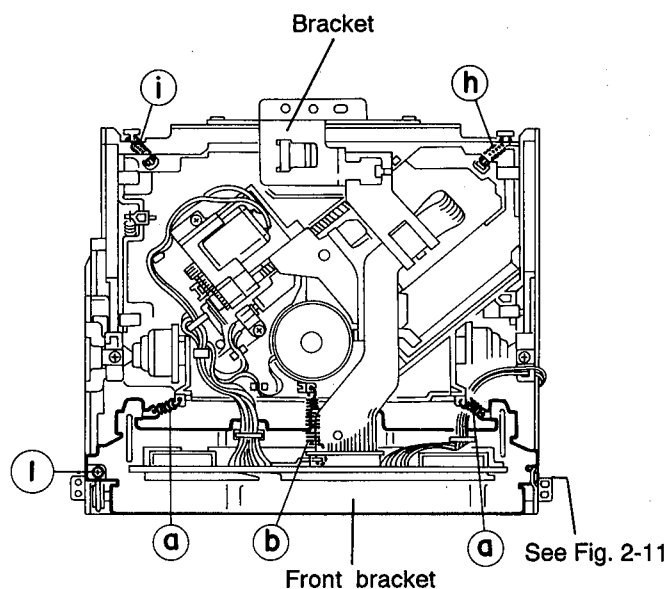
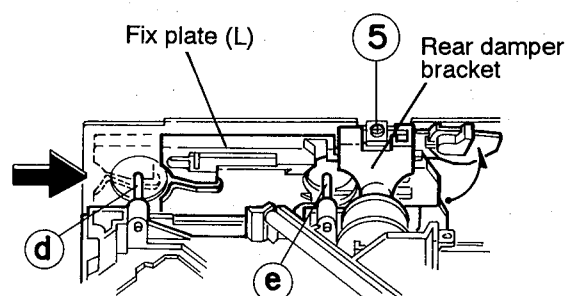

Fig. 2-10
Fig. 2-17
5. Remove the three springs ③ and ④ from behind the CD mechanism assembly (See Fig. 2-10).
2. While shifting the fix plates on the right and left sides respectively to the arrow direction, lower the entire CD mechanism. When the shafts (㉔, ㉕, ㉖ and ㉗) on both the right and left sides have been set free as shown in Figs. 2-17 and 2-18, then the assembly can be removed easily. Remove the two screws ⑤ retaining the rear damper bracket to make it easier to remove the damper from the rear damper bracket (See Figs. 2-10, 2-17 and 2-18).
3. Remove the two springs ㉘ and ㉙ as shown in Fig. 2-10, 16.